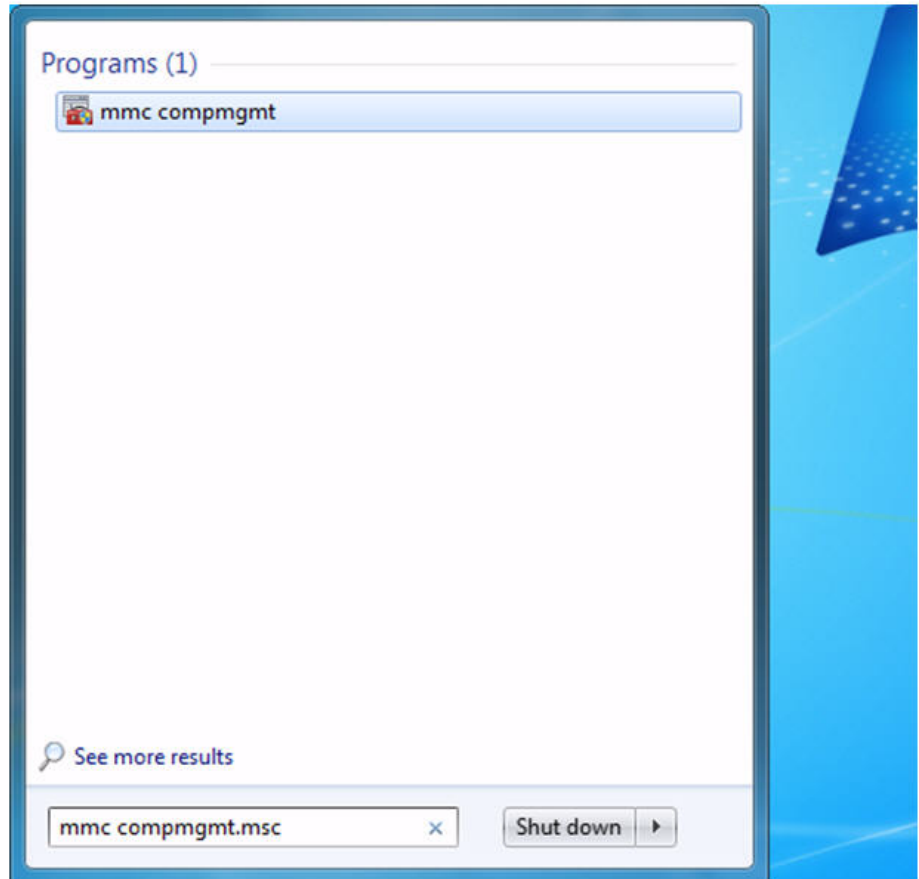

Figure 31. Windows 7 Search Box
1. Select the Start button. See Figure 31.